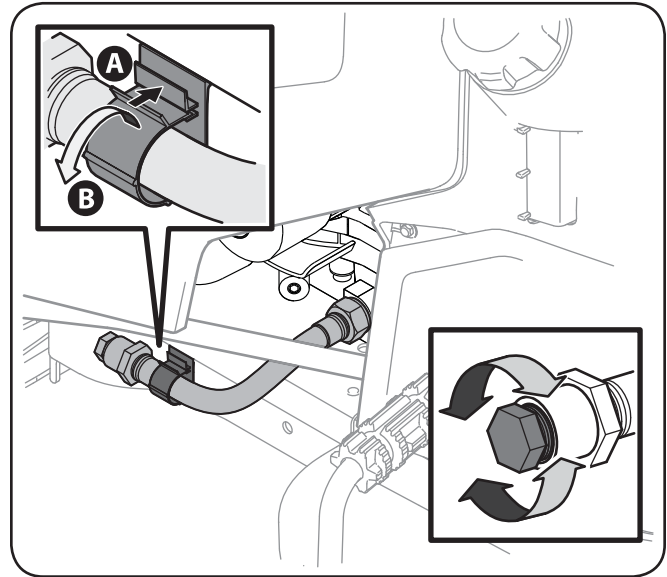

Figure 6-1
4. Remove the oil drain hose from the clip on the left side of the frame. See Figure 6-1.
5. Remove the oil drain hose plug from the end of the hose. See Figure 6-1. Drain the engine oil into the collection container.